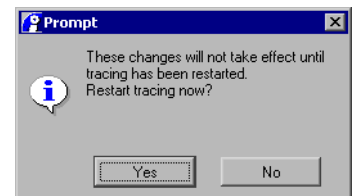

Figure 2-5 Prompt displayed on a running target (global trace conditions)
- When configuring the global trace conditions, RealView Debugger displays the prompt shown in Figure 2-5.